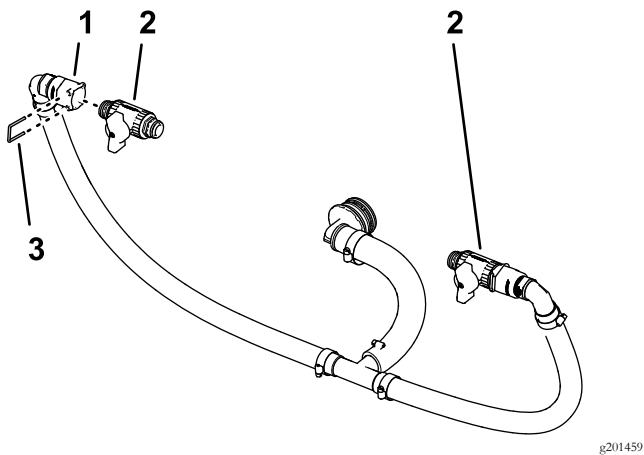

Figure 91
1. Remove the 2 retainers from the quick-disconnect fittings (Figure 91) that you assembled in Assembling the Bypass Hoses (page 39).
2. Assemble the shutoff valve into the quick-disconnect fitting socket (Figure 91).